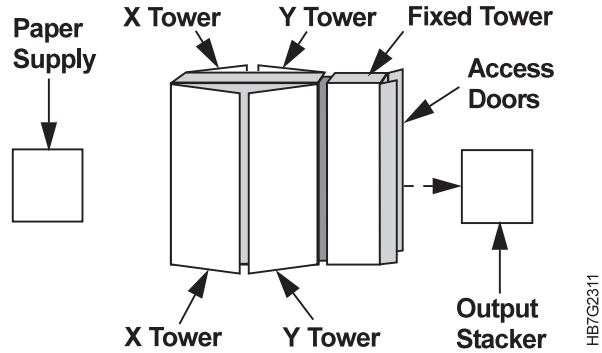

Figure 309. Right Side View of the InfoColor 70
- 2 Move the output stacker away from the fixed tower, as shown in Figure 309.